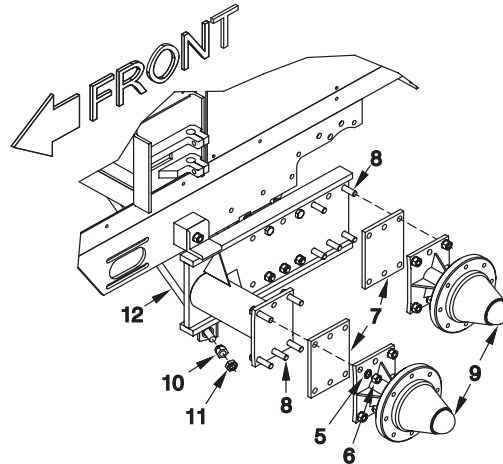

Figure 2-3-4 - Mounting Spacer Plates Hubs & Truss Rod
B. (See Figure 2-3-4) Place (2) Item 7 Spacer Plates on the tandem plate. Place (2) Item 9 Hub and Spindle assemblies as shown. Place all bolts, star washers and nuts so the hub and spindle are secure. Torque all nuts and bolts as per torque chart on page 2-3-1.
C. Before mounting the tires and wheels, place (1) Item 12 Truss Rod as shown in Figure 2-3-4. Secure truss rod finger tight with (2) Item 10 Truss Rod Nuts and (2) Item 11 Jam nuts.